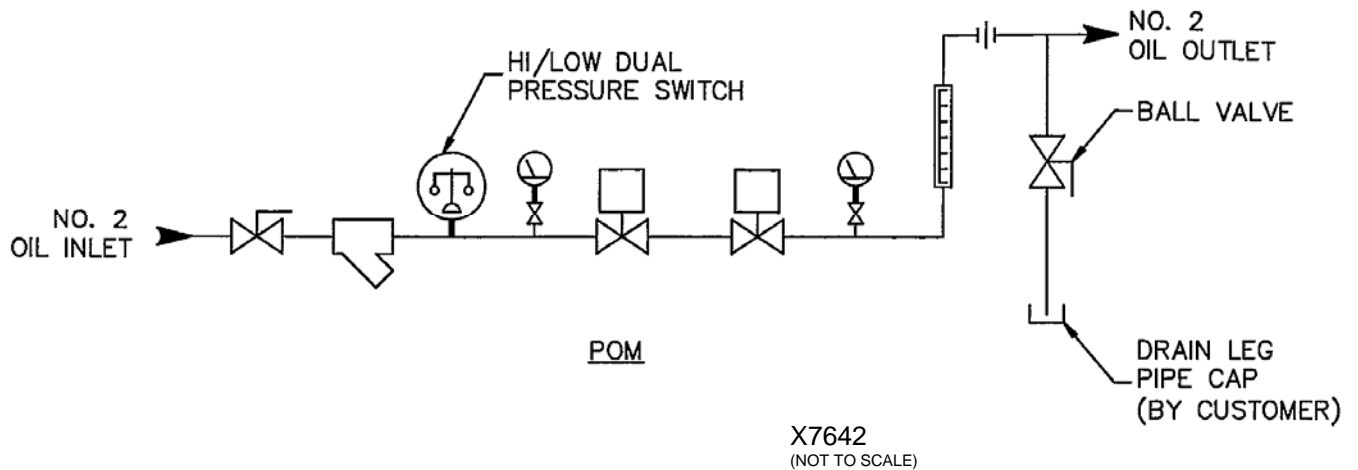

Figure 2. Typical Schematic of POM Drain Leg
4. Make the piping connection to the manifold outlet. It is recommended that a drain leg be installed at this point to facilitate draining the piping between the burner and POM to allow easy cleaning of the burner nozzle and prevent unnecessary fuel spillage (see Figure 2). Use an appropriate pipe sealant on all piping connections. Once the piping connections are made, the electrical connections can be started.